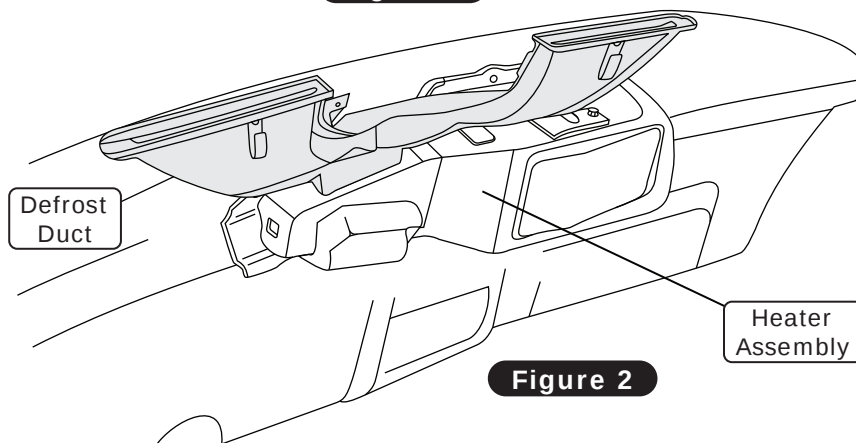

Figure 2
10. Remove the OEM defrost duct (discard) (See Figure 2, below).
11. Remove the OEM heater assembly (discard) (See Figure 2, below).